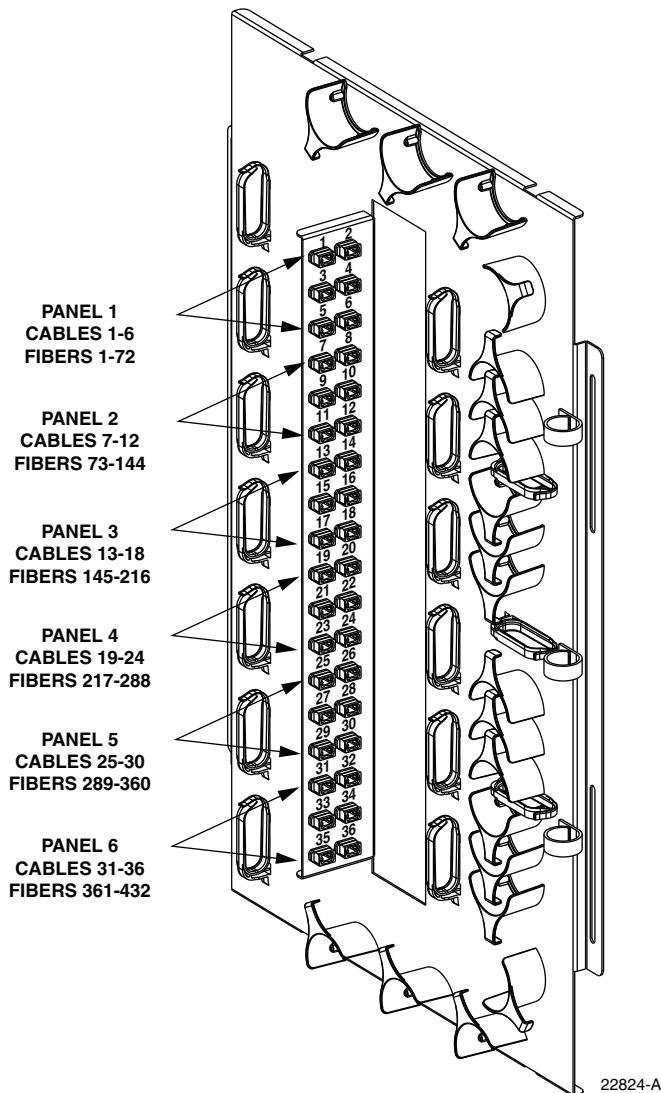

Figure 59. Layout of Bulkhead Adapter Panel
11. Locate the adapters on the bulkhead adapter panel that correspond to the distribution panel to which the distribution cables will be connected. The layout of the adapter panel is shown in Figure 59.